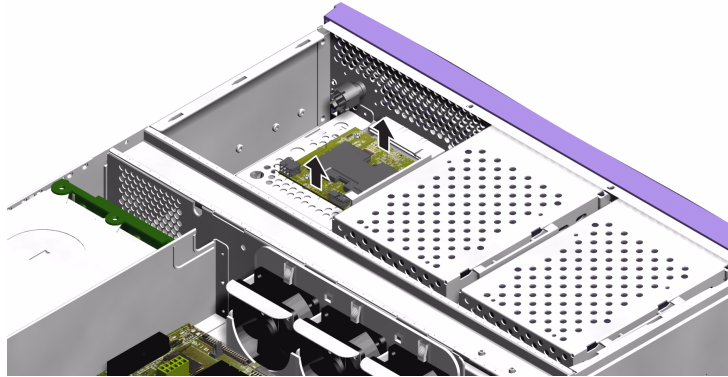

FIGURE 1-11 Removing the System Configuration Card Reader
7. Unclip the system configuration card reader (FIGURE 1-11).